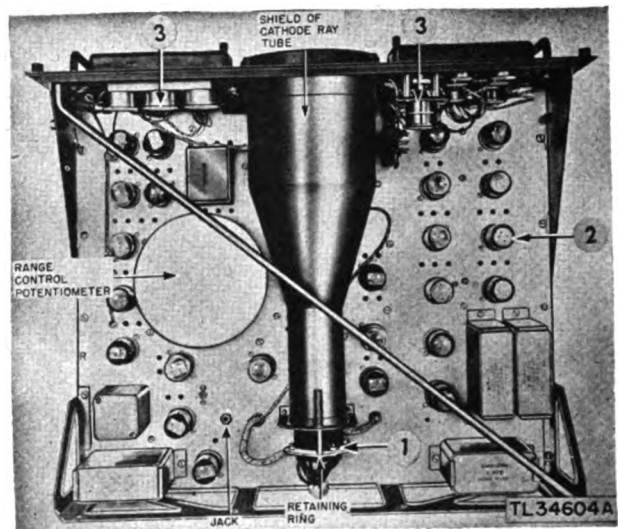

Figure 17. Control Unit BC-1268-A—top view.
(1) Check oscilloscope glass cover ④ for cleanliness.
(2) Check knob setscrews ① for tightness on the shafts.
(3) Inspect jacks ② for corrosion and tight mounting nuts.
(4) Check tightness of handles ③.
(5) Clean entire front panel of control unit. ITC. TOP OF CHASSIS (fig. 17).